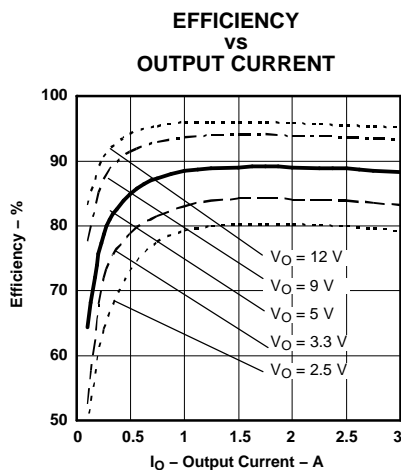
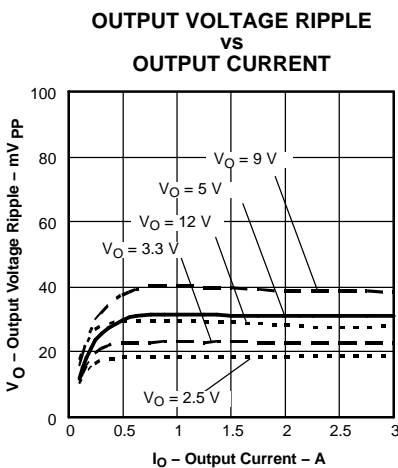
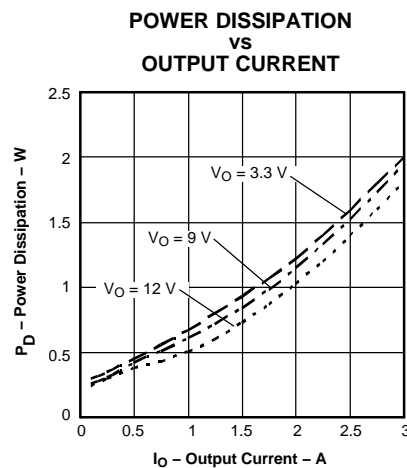

Figure 6.
Figure 7.
Figure 8.
- (3) The electrical characteristic data has been developed from actual products tested at 25°C. This data is considered typical for the converter. Applies to Figure 6, Figure 7, and Figure 8.